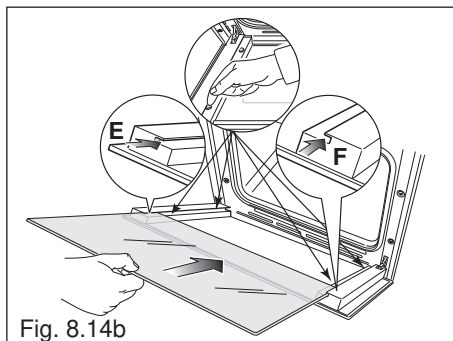
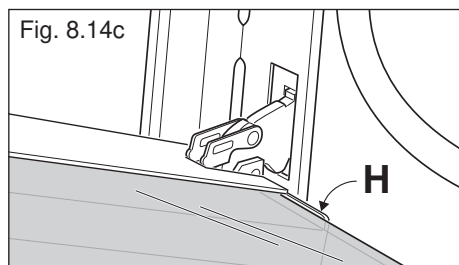

Fig. 8.14b
Fig. 8.14c
- IMPORTANT:** It is advisable, while refitting the glass, to keep pressed in position the four rubber pads “D”, by a finger, to avoid breakage or slippage of the rubber pads themselves (fig. 8.14b).
- Insert the pane in the left “E” and right “F” slide guides (fig. 8.14b), and gently slide it to the retainers “H” (fig. 8.14c).